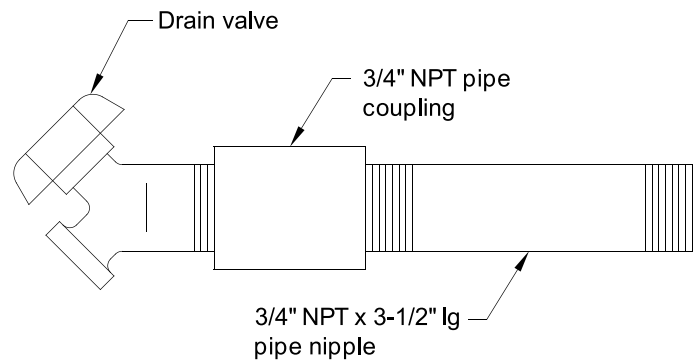

Figure 3-3: Drain Piping Installation
- D. Install Drain Valve in rear of Left End Section, Tapping "G". See Figure 3-3. Components are located in Water Trim Carton.